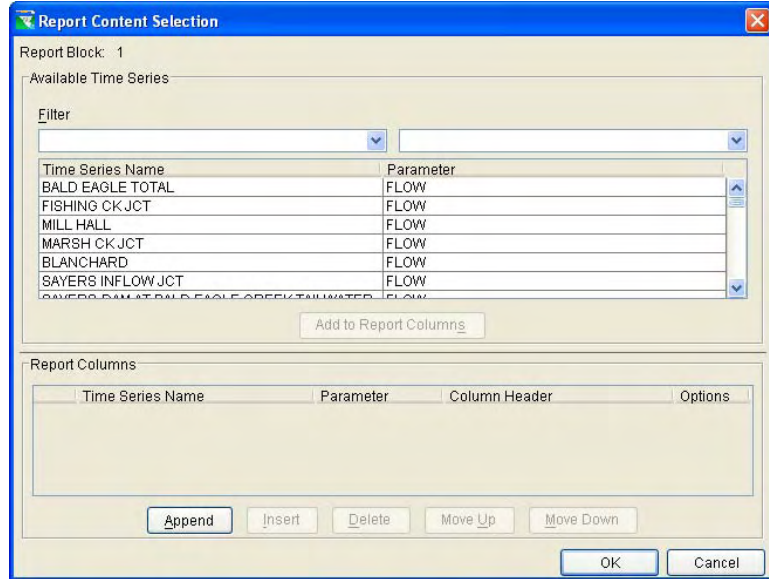

Figure 14.42 Report Content Selection
4. From the **Contents** tab, select the **Edit** button  in order to choose the output time series that you would like to include in your first report block. The **Report Content Selection** dialog box will appear (Figure 14.42).